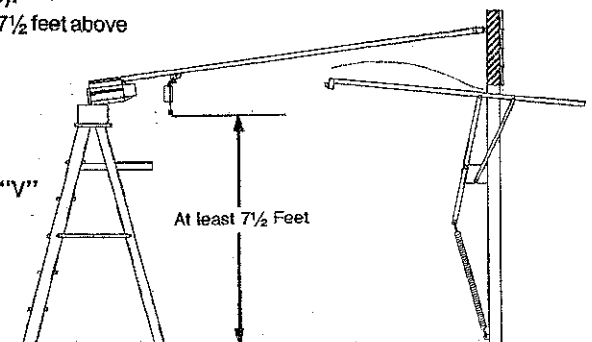

Fig. 15 Raising Power Unit
7. Raising power unit (Fig. 15).